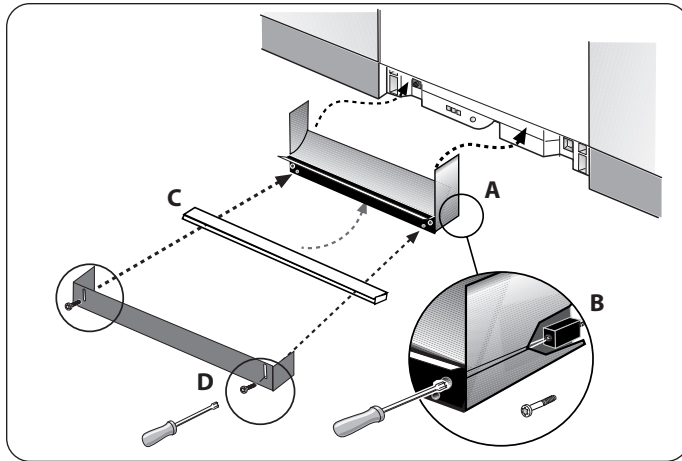

Figure 29
1. Place the Base Part under and up the front bottom panel of the dishwasher, as shown in Figure 29.
2. Insert the Base Part screws (Figure 1, letter O) into the Base Part, as shown in Figure 29, letter B. Tighten the Base Part Screws.
3. Place the Cotton Insulation Strip (Figure 1, letter C) under the unit, between the bottom of the Base Part and the floor, as shown in Figure 29, letter C.
4. Place the toe panel over the Cotton Insulation Strip, and use the toe panel screws (Figure 1, letter N) to secure the toe panel in place, as shown in Figure 29, letter D.